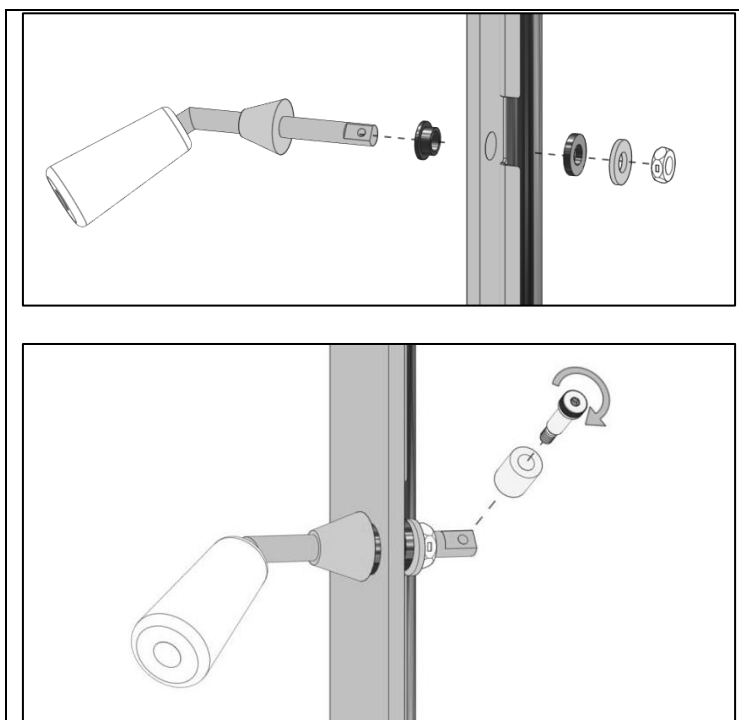

Figure 15 Door Handle Installation
2. As shown in Figure 15, place the sleeve bearing on the front side of the door with the sleeve passing through the door. The bronze washer should be placed on the back side of the door.